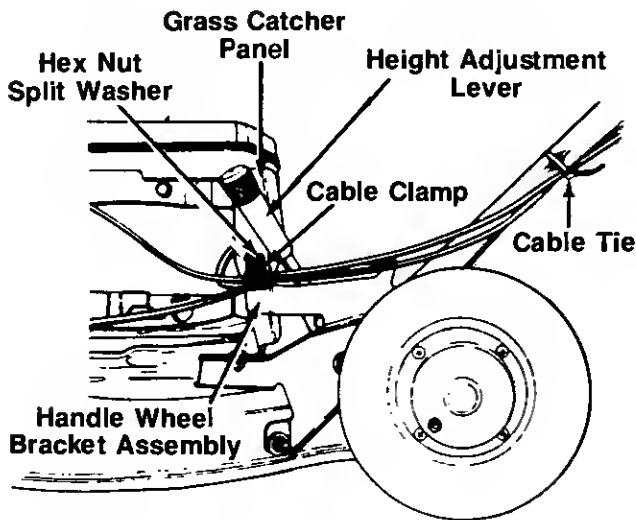

FIGURE 9.
2. Remove the hex nut and split washer from the side of the left handle wheel bracket assembly as shown in figure 9. Attach the cable clamp to the left hand wheel bracket assembly as shown. Secure with hardware just removed.